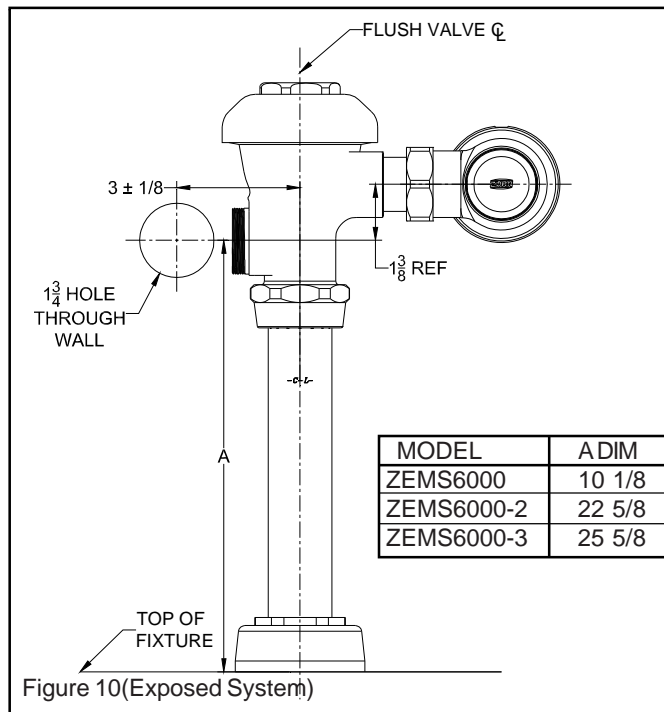

Figure 10(Exposed System)
Motor Actuator Installation (Figure 10)
1. Drill 1-3/4" diameter hole per Figure 10.